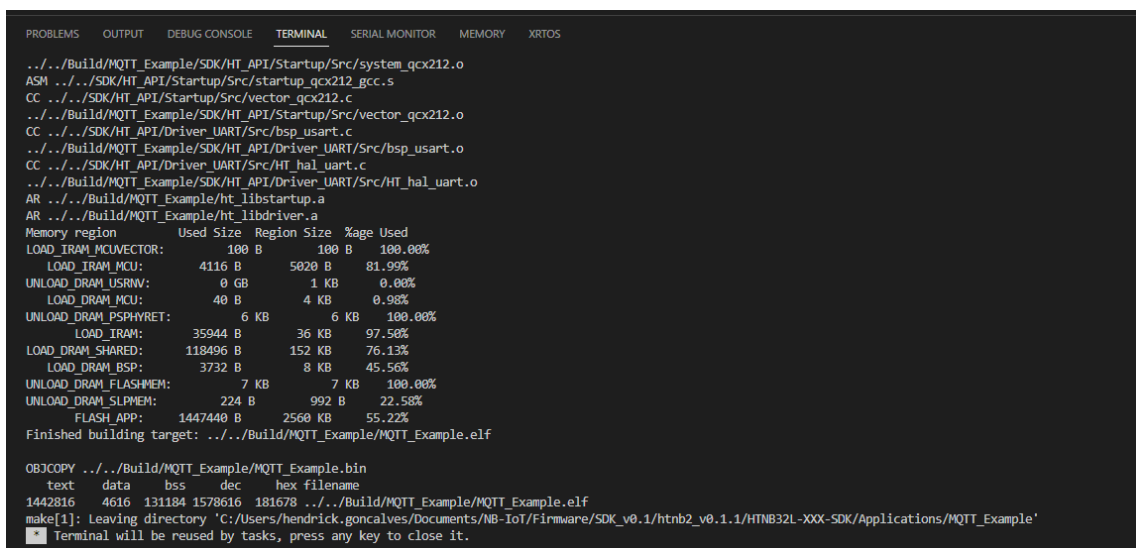

Figure 15: MQTT\_Example compilation logs.
4. A terminal should be opened showing the compilation logs. Figure 15 shows the logs generated from MQTT\_Example compilation: